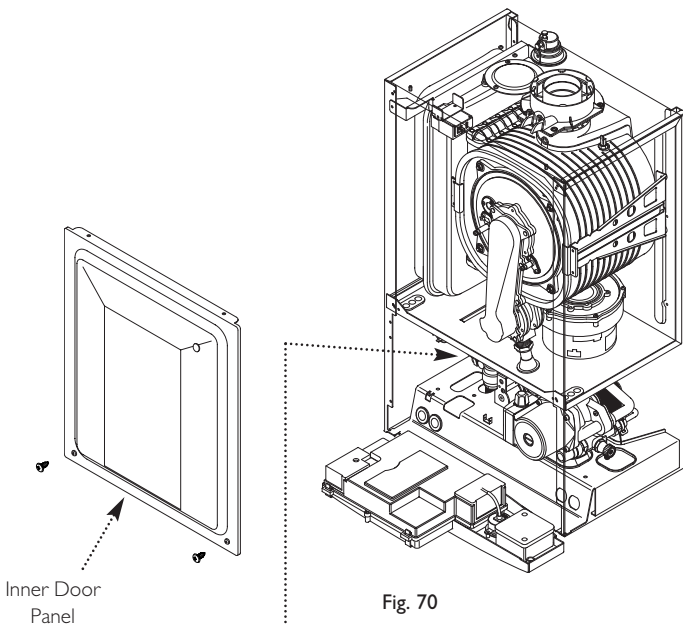

Fig. 70
6. Remove the screws securing the inner door panel. Lift the panel slightly to disengage it from the studs on top of the case (Fig. 70).